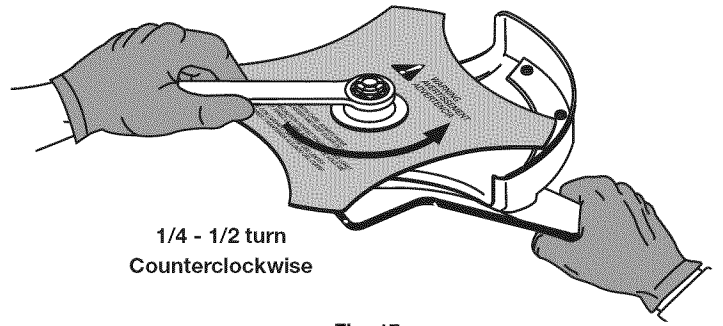

Fig. 17
- Without a torque wrench, use a 13 mm closed-end or socket wrench, turning the nut until the blade retainer is snug against the shaft bushing. Make sure that the blade is installed correctly, then rotate the nut an additional 1/4 to 1/2 turn **counterclockwise** (Fig. 17).